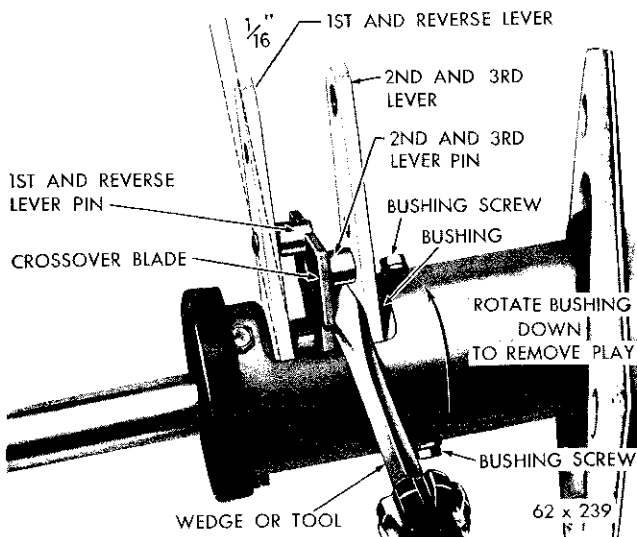
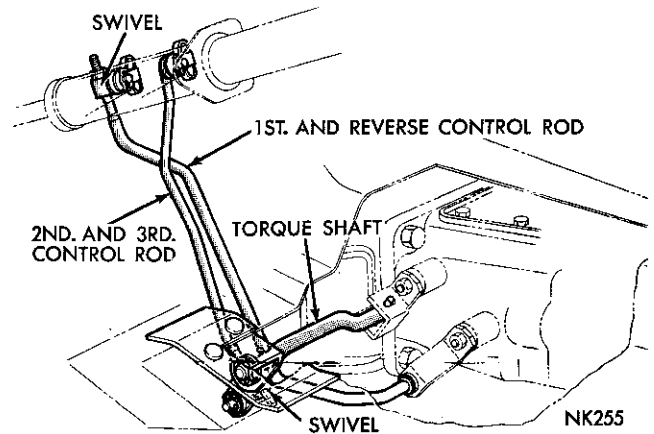

Fig. 3—Gearshift Lever Adjustment
Fig. 4—A-745 Gearshift Controls
(1) With the 2nd and 3rd control rod disconnected from the lever on the column and the 1st and reverse control rod disconnected from the transmission lever, position both transmission levers in neutral. (The neutral detent balls must be engaged to make this adjustment correctly.) To check this, start the engine (with clutch disengaged) then release the clutch slowly.
(2) Inspect the fore and aft movement of the shift levers in the steering column. If the movement at outer end of the levers exceeds $\frac{1}{16}$ inch, loosen the two upper bushing screws (Fig. 3) and rotate the bushing (downward) until all free play of the levers has been removed. Retighten the bushing screws securely.
(3) Install a wedge or suitable tool between the cross-over blade and the 2nd and 3rd lever, so that the cross-over blade is engaged with both lever cross-over pins.
(4) Adjust the length of the 2nd. and 3rd. control rod until the stub shaft of the control rod or swivel enters the hole in the column lever (Fig. 4). Install the washer and clip to secure and tighten the swivel lock nut to 70 inch-pounds torque. During the above setting, the 2nd. and 3rd. control rod should be adjusted to also position the selector lever (on the column) 5 degrees above horizontal level.
(5) Slide the clamp and swivel (on the end of the 1st and reverse control rod) either *in* or *out*, until the swivel stub shaft enters the hole in the transmission lever (Fig. 4). Install washers and clip to secure. Determine the mid back-lash position in the linkage,